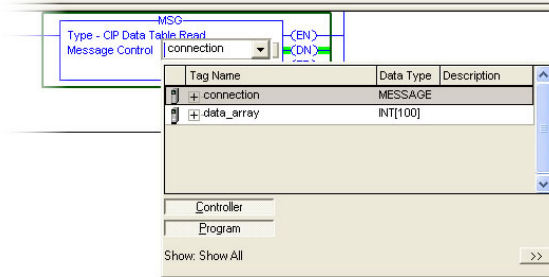

Figure 87: MSG Instruction Tag Assignment
- a) Edit the “Message Control” field on the MSG instruction to use the previously-created “connection” tag. Refer to Figure 87.